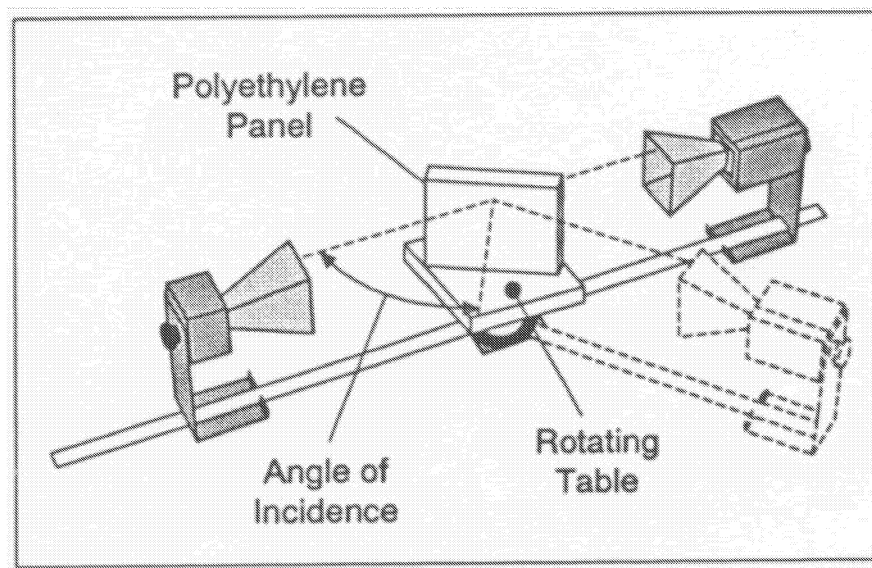

Figure 6: Set-up for the measurement of Brewster's angle
13. Set up the goniometer with the receiver unit on the rotating arm. Place the rotating table on the degree plate. Place the polyethylene panel on the rotating table. See Figure 6. Set the angle of incidence to 20 degrees and observe at the same angle (i.e. 140 degrees from the straight through position). Ensure that both the transmitter and receiver units are set for horizontal polarisation. Set the receiver controls for a half full scale reading. Record the meter reading. Carefully rotate both the receiver and transmitter units for vertical polarisation. Record the meter reading.